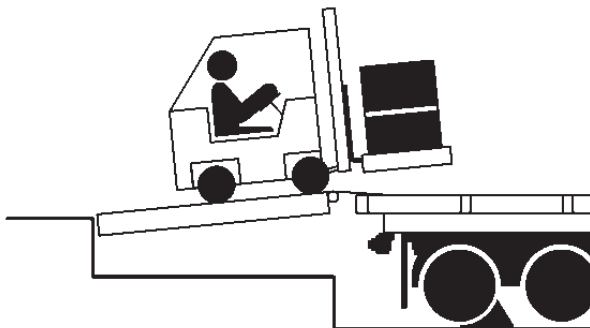

Figure 18
- c. Make sure that the lip is fully extended and supported on the transport vehicle along the entire width of the platform, with at least 4 in. (102 mm) of lip contacting the transport vehicle bed. See Figure 18.
6. Walk out on the leveler, pull and hold the below dock control ring (located in the recess at the front of the platform). This will cause the lip to extend away from the lip keepers and the safety legs to fold allowing the leveler to lower to the full below dock position. See Figure 18.